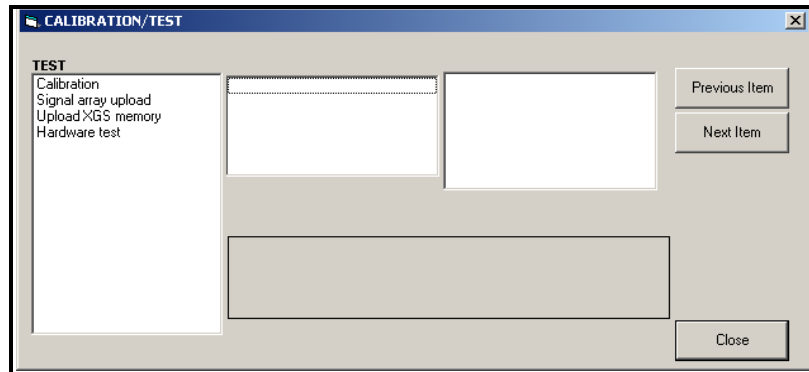

Figure B-2: The Calibration/Test Menu
5. To enter data into the user program, double-click on the *Calibration/Test* menu. The window appears similar to Figure B-2 on page B-3.
1. From the *Calibration/Test* menu (see Figure B-2 on page B-3), double-click on the *Calibration* entry to open the option.
To calibrate any option card installed in Slot 1 of the XGS868i, enter the *Calibration/Test* menu as shown in Figure B-2 on page B-3.